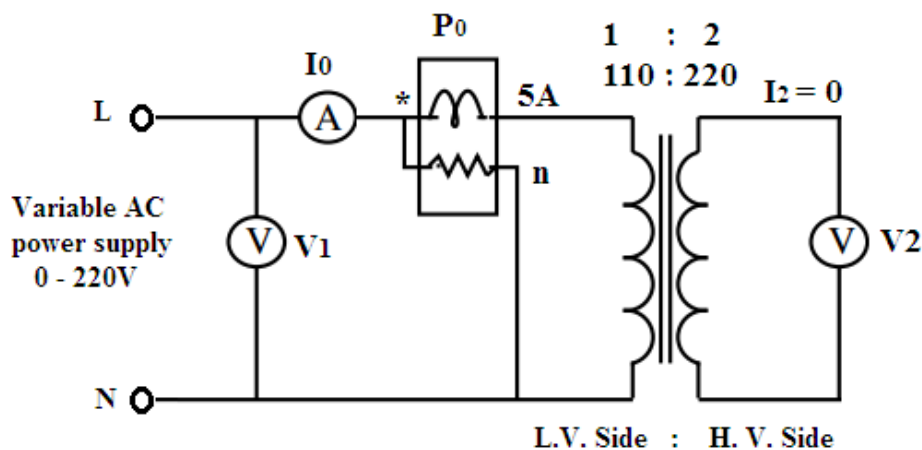

Fig. 5: Circuit diagram of O.C. test
- 6- Connect the circuit shown in the Fig. 5; the primary winding is connected to AC supply through ammeter and wattmeter, keeping secondary open. Usually, low voltage side is used as primary and high voltage side as secondary to conduct O.C. test.